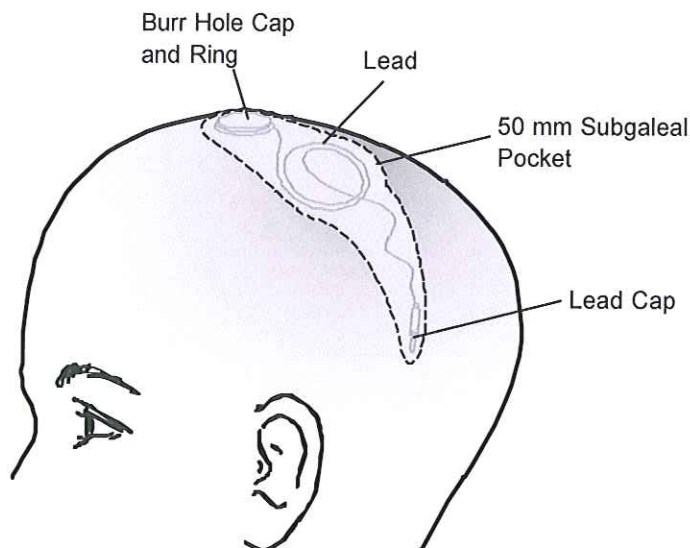

Figure 31: Lead in subgaleal pocket.
8. Use blunt dissection to create a 50 mm diameter subgaleal pocket and a path to the desired lead-extension connection site (Figure 31).
9. Deliver the capped end of the lead to the desired temporary location (Figure 31).
10. In the subgaleal pocket, coil excess lead in a circle greater than 25 mm in diameter (Figure 31).